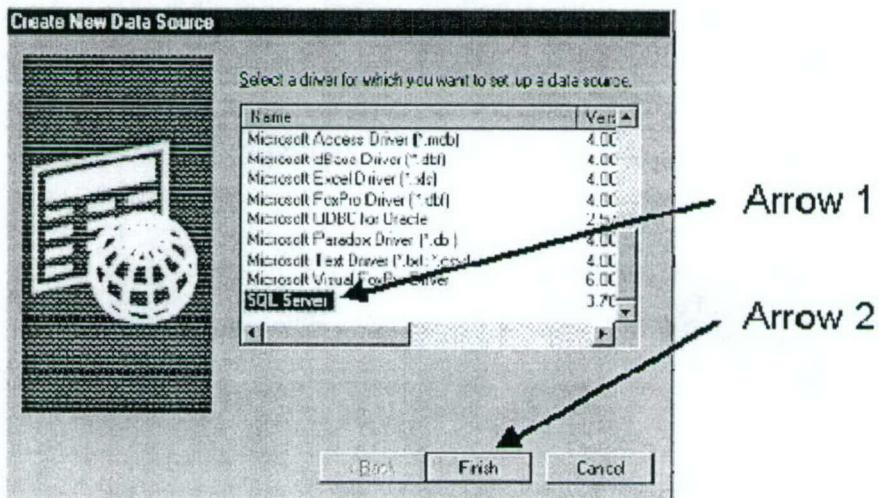

Figure B-2. Create New Data Source Window
6. Select “SQL Server” from the list of drivers for the data source (Figure B-2 – Arrow 1).
7. Click the “Finish” button (Figure B-2 – Arrow 2).